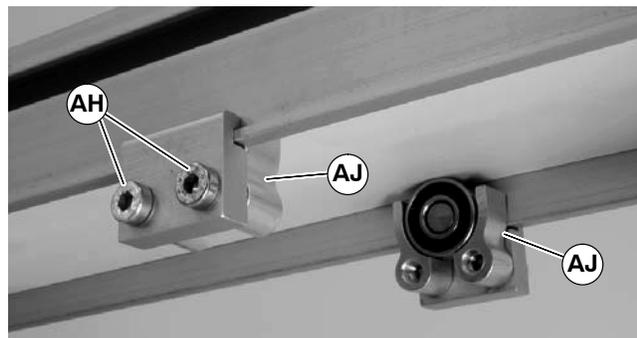

Figure 13
3. Install roller assemblies (AJ of Figure 13) as shown. Tighten screws (AH) to 60 in-lb (7 Nm).